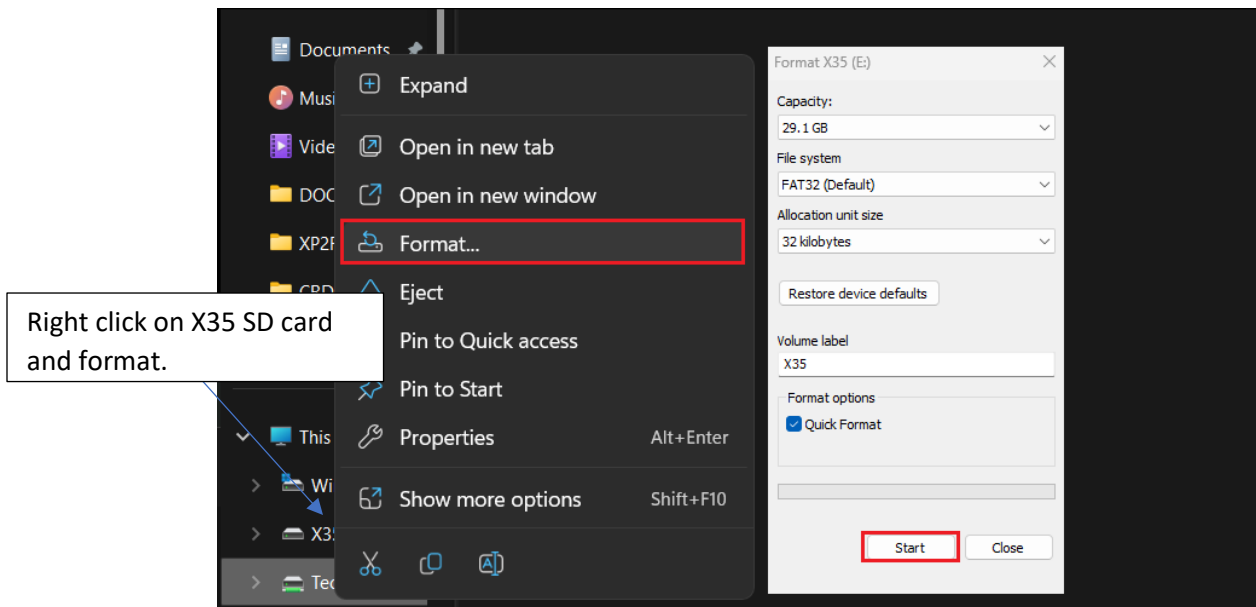

Figure 4.46
1. Disconnect SD card from X35 and insert into PC and start by having a complete format to SD card as shown in **FIGURE 4.46**.
4. Setup X35 Totalizer output settings as mentioned prior in figure 4.46.